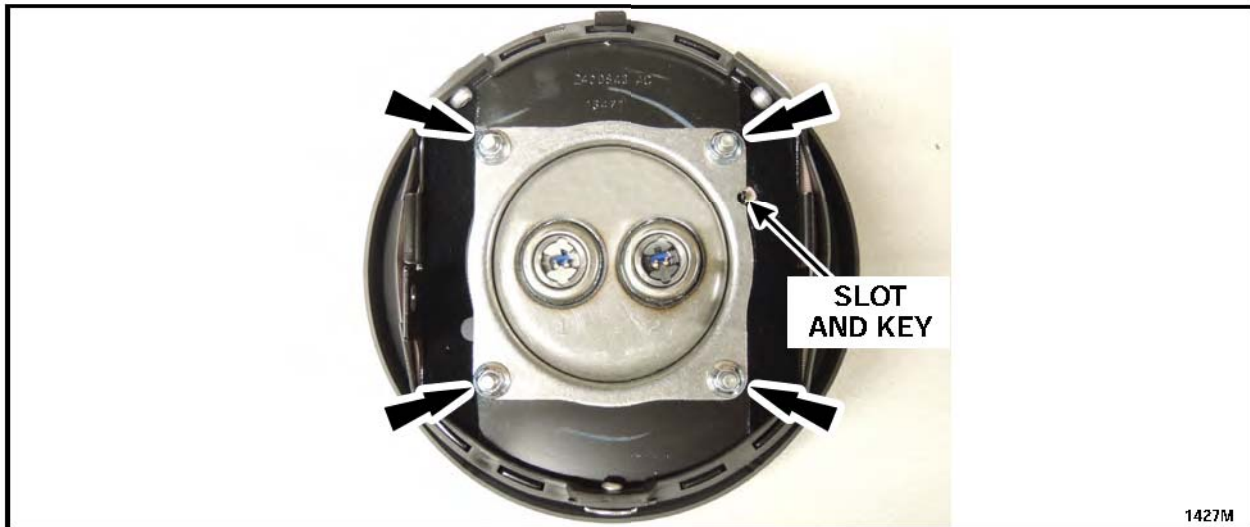

FIGURE 2
5. Align the key on the driver airbag with the slot on the *new* inflator. Install the *new* inflator into the driver airbag. See Figure 2.
6. Install four *new* airbag inflator nuts onto the driver airbag. See Figure 2.